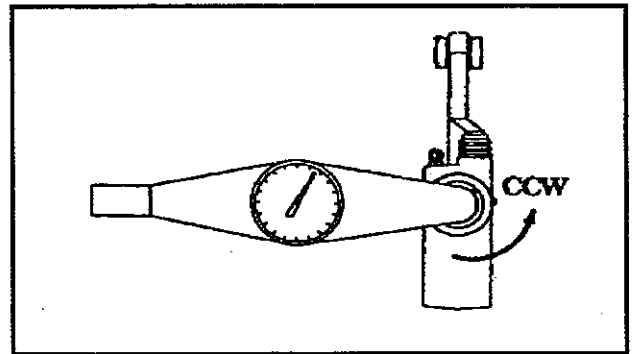

Figure 26—Adjust Shaft
6. Turn the hex adjusting nut shaft counterclockwise counter clockwise slowly. Back stroke will increase to a peak value, then return to zero as the clutch ratchet disengages. (See Figure 26—Adjust Shaft.)